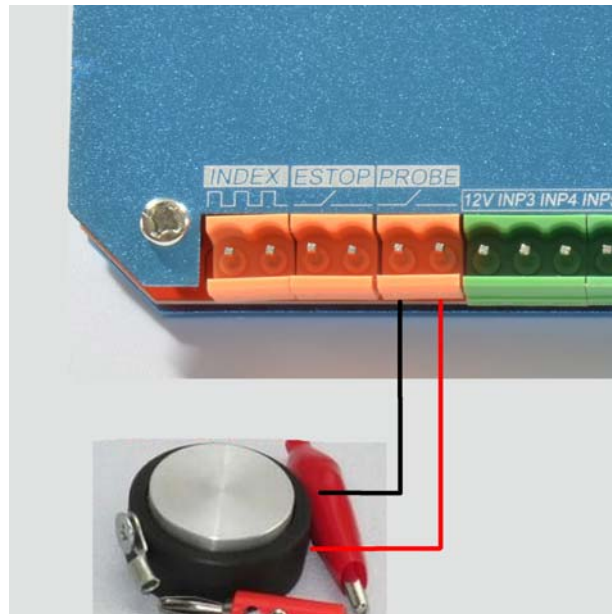
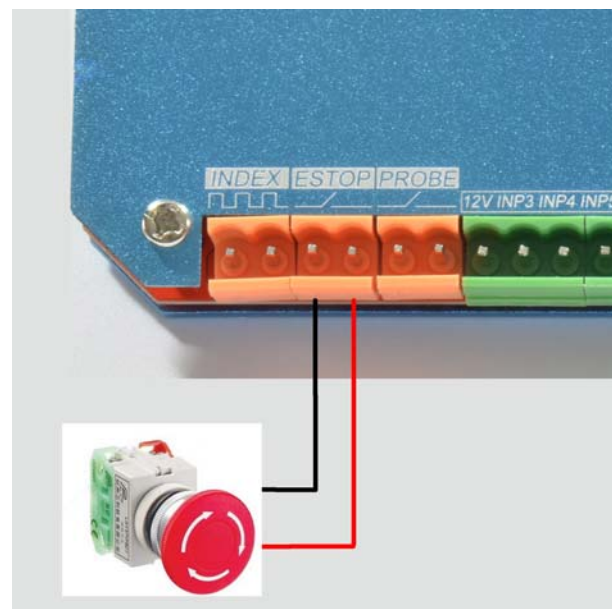
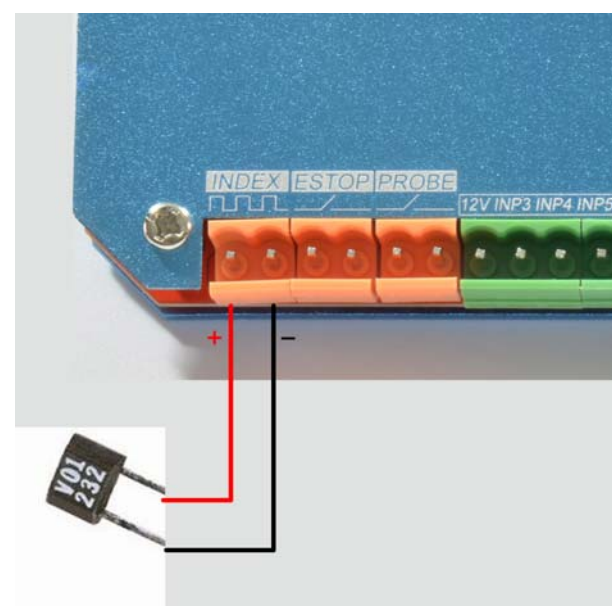

Figure2-10. Probe port connection method
Figure2-11. Estop port connection method
Figure2-12. Index port connection method
- J) Probe/Estop/Spindle speed Index port. Probe port connection method see as Figure 2-10, Estop port connection method see as Figure 2-11, Index port connection method see as Figure 2-12. You should pay attention to positive and negative of the port Inex.